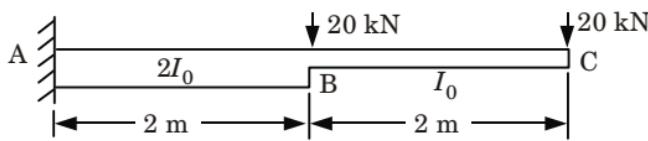

Fig. 1.
- b. Determine the deflection and rotation at the free end of the cantilever beam shown in Fig. 1. Use unit load method. Given  $E = 2 \times 10^5 \text{ N/mm}^2$ , and  $I = 12 \times 10^6 \text{ mm}^4$ .